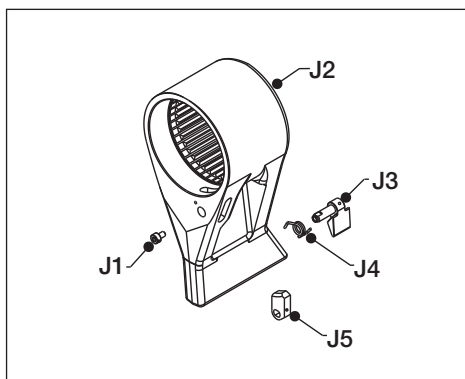

Fig. 26
- Reaction Arm (Fig. 26, item J2)
5.3.9 Reaction Arm Latch - Disassembly and Reassembly (Fig. 26)